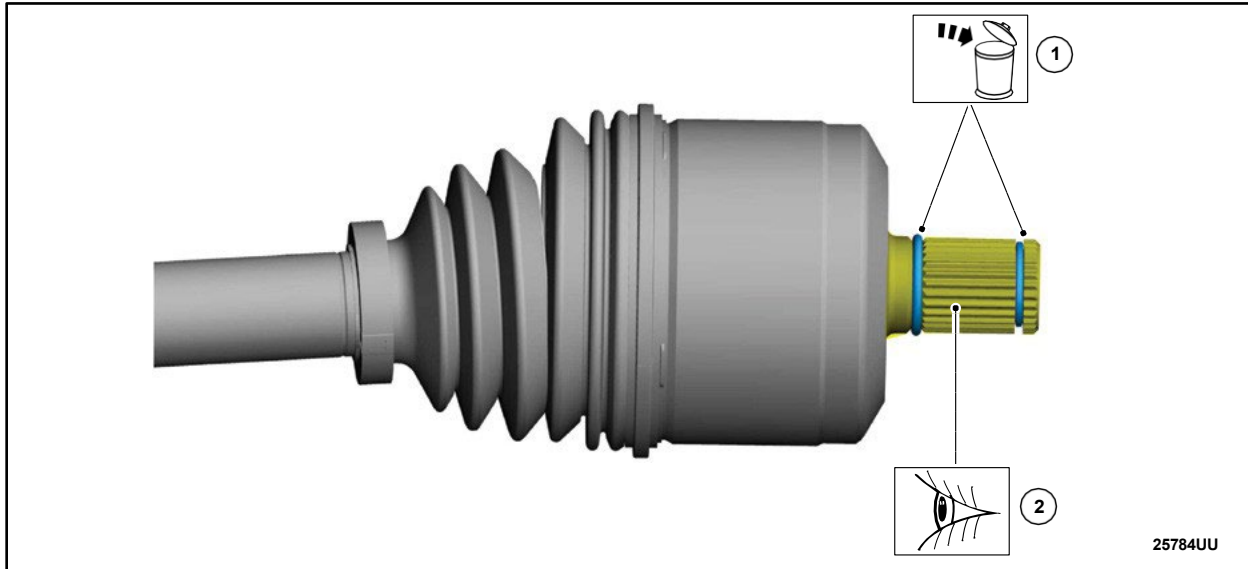

FIGURE 19
23. Perform the following: See Figure 19.